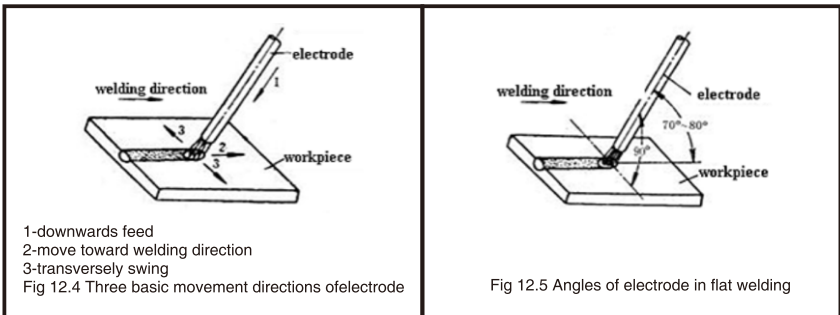

Fig 12.5 Angles of electrode in flat welding
(1)welding angle: the electrode should be inclined in $70 \sim 80^\circ$ forwards. (See Fig.12.5)